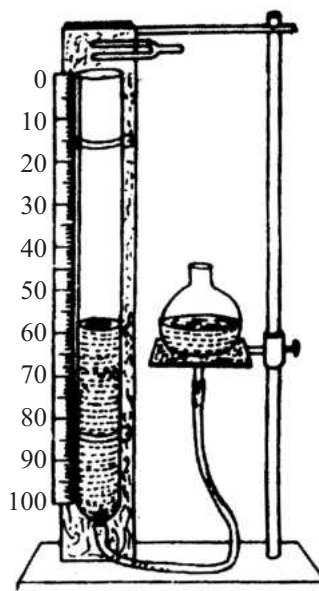

Fig 10.2: The resonance tube apparatus.
- (iii) The resonance tube apparatus is shown in Fig. 10.2. Set it in vertical position with the help of levelling screws attached to its base and spirit level. Fill the reservoir with water and raise it to adjust the water level in the long tube to a point near the top. Do not overfill the reservoir otherwise it will overflow when you lower it. Practice lowering and raising the water level in the tube to get the “feel” of the apparatus.